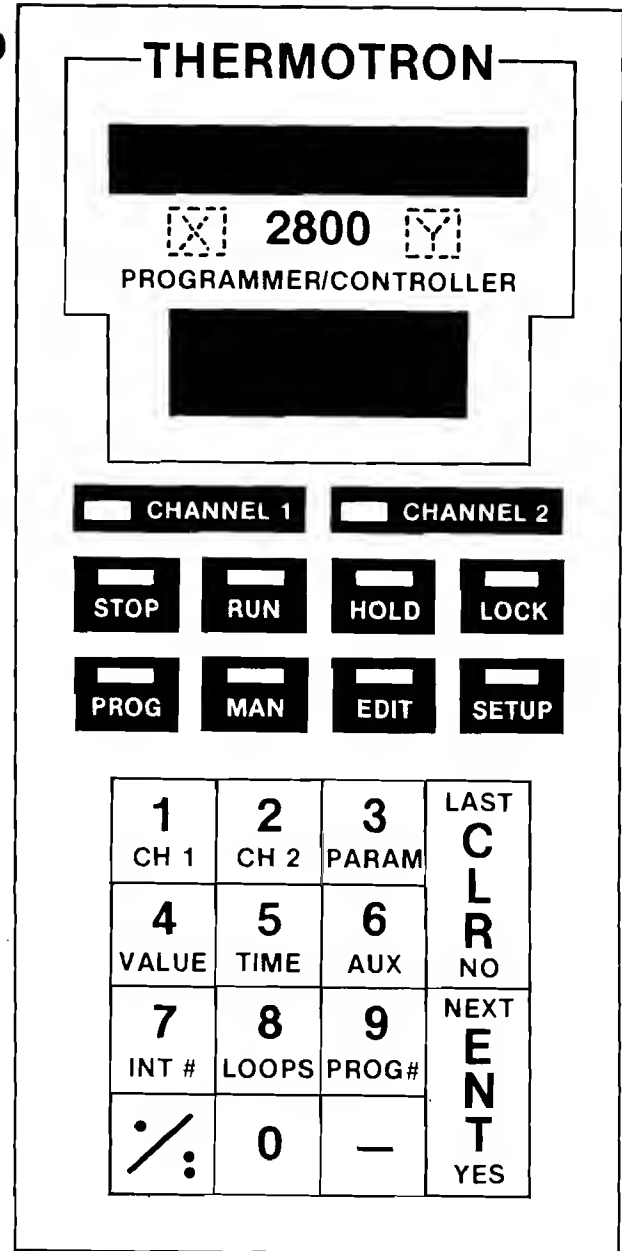

FIGURE 9
1. Press the **LOCK** key. The display shows ENTER KEY. See Figure 9.
2. Press the **X** key hidden just above the letters OGRA between the two displays. See Figure 9. The alpha display shows -XXX-.
3. Press the **Y** key hidden just above the letters TROL between the two displays. See Figure 9. The alpha display shows -XXX-YYY-.